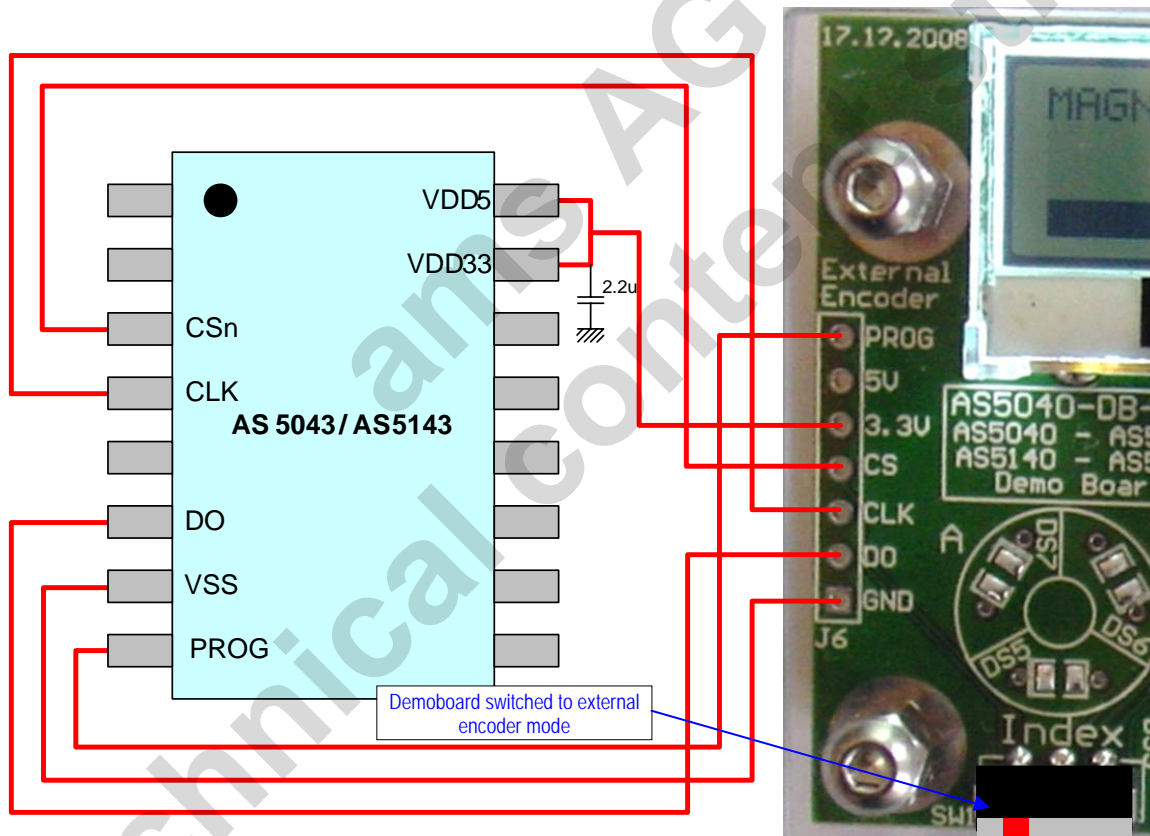

Figure 3: external AS5043/AS5143 connection to the demoboard
- In standalone mode, regardless to the demoboard type (AS5043 or AS5143), AS5043 and AS5143 can be attached to J6 and evaluated. See figure 3.